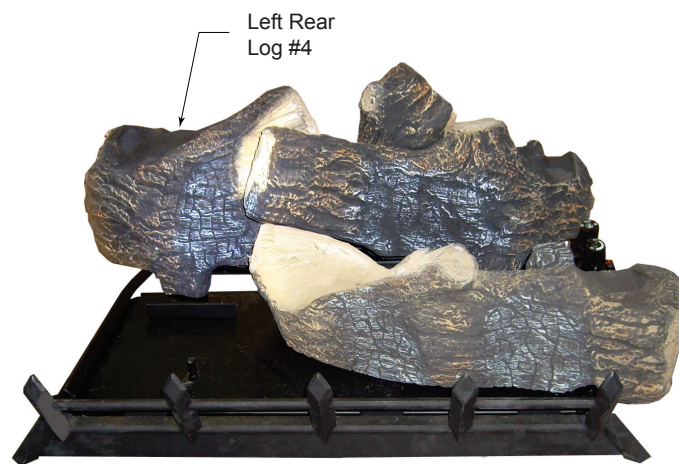

Figure 24 -
4. Place left rear log (#4) on pin located on rear support bracket on left side. *Figure 24*